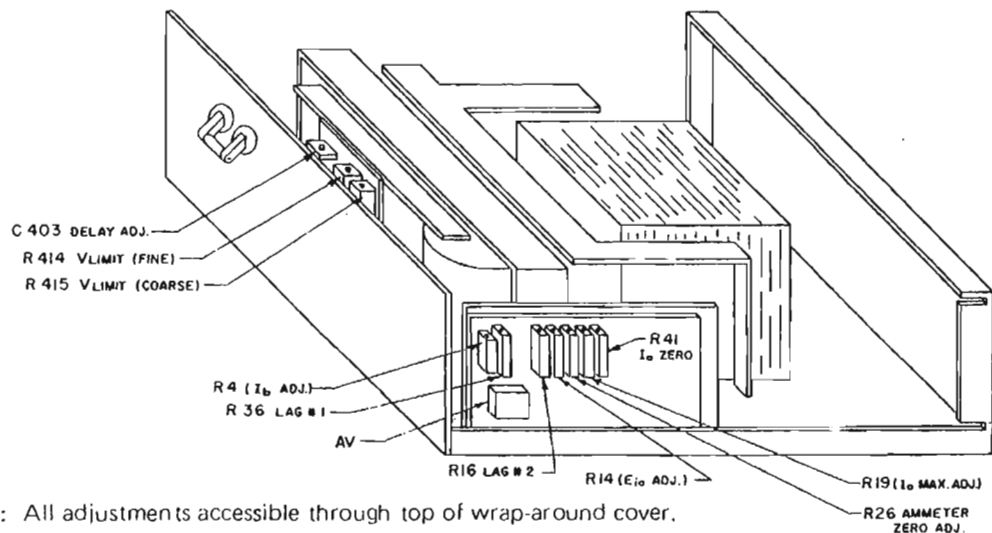

FIG. 2-1 LOCATION OF INTERNAL ADJUSTMENTS
- c) INTERNAL ADJUSTMENTS AND CALIBRATIONS: Refer to FIG. 2-1 and TABLE 2-1.